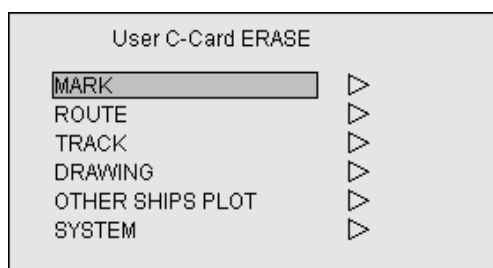

Figure 6.75 User C-Card ERASE MENU
- (3) Move the Joystick up or down to highlight ERASE and press the Joystick to the right to enter the sub menu, User C-Card ERASE. (Figure 6.75)
- (4) Move the Joystick up or down to highlight the item to be erased and move the Joystick to the right. The file list will appear.